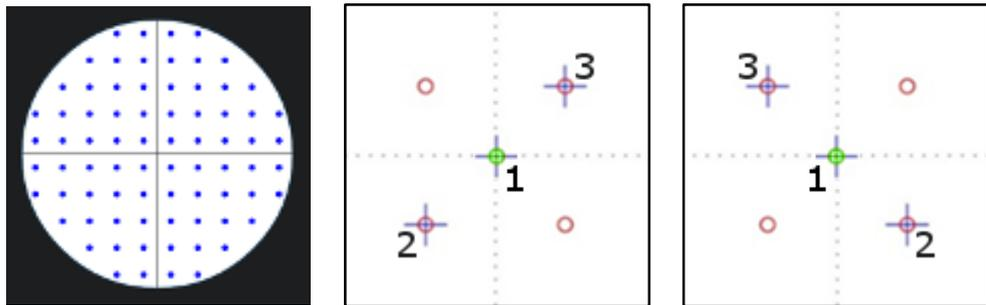

Fig. 23: “30-2” grid test locations (left)
- Steps 1 to 6 take place as described above, with the IR image and foveal test being performed with a fixation target in the central position with respect to the field (see Fig. 23, position 1);
- Step 7 is split in two parts: at the end of the foveal test the fixation target changes from the central position to a position at about 4° from the center in lower-nasal direction (see Fig. 23, position 2). Allow the patient to locate the fixation target and to start fixating it before clicking the arrow to proceed;
- Then, the fixation target changes to a position at about 4° from the center in upper-temporal direction (see Fig. 23, position 3). Allow the patient to locate the fixation target and to start fixating it before clicking the arrow to proceed; the remaining 38 locations are then measured;